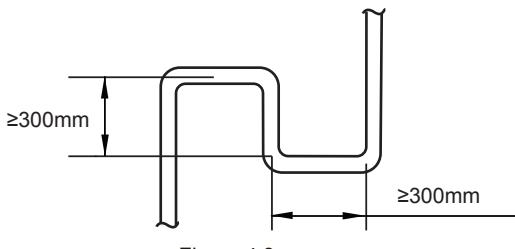

Figure 4.3
- When the outdoor unit is above the indoor unit, and the level difference exceeds 20 m, it is recommended that an oil return bend be set up at every 10 m interval on the gas pipe of the main piping. The recommended specifications of the oil return bend are as shown in figure 4.3.
- 3 **Requirement 3:** The largest level difference between indoor unit and outdoor unit should not exceed 90m (if the outdoor unit is above) or 110m (if the outdoor unit is below). Additionally: (i) If the outdoor unit is above and the level difference is greater than 20m, it is recommended that an oil return bend with dimensions as specified in Figure 4.3 is set every 10m in the gas pipe of the main pipe; and (ii) if the outdoor unit is below and the level difference is more than 40m, the liquid pipe of the main pipe (L1) should be increased one size.